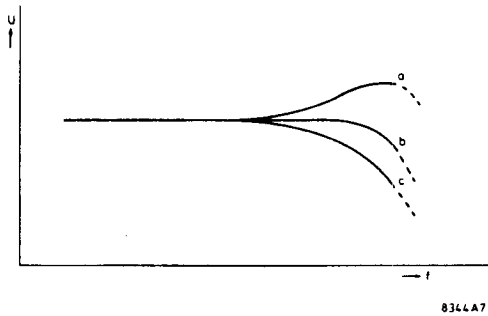

Fig. 19
- The curve over 6,300 Hz should more or less correspond with the characteristic b shown in Fig. 19, whilst the after-tape distortion should be $\leq 3\%$ at 1 kHz (100% modulation).